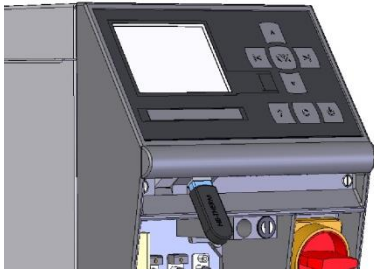

Fig. 92: Connect USB data carrier
2. Connect USB data carrier (Fig. 92).